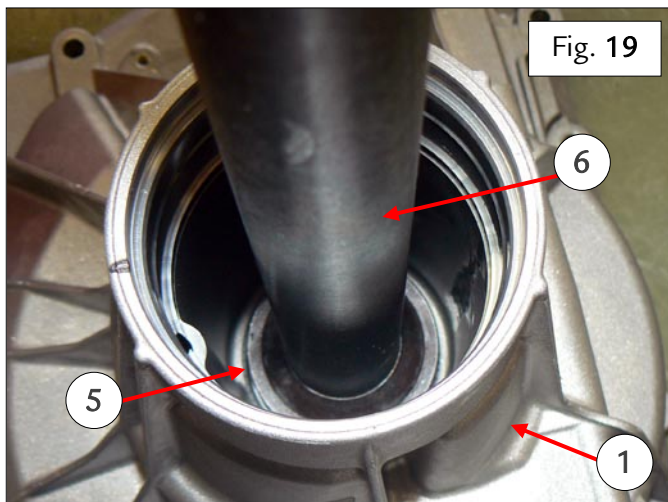

Fig. 19
- Install the new bearing (5) in the relative seat on the outer side of the new connector casing (1), with the markings facing upwards – Fig. 19.
- Install the new bearing (5) fully in its seat with a suitable punch (6) – Fig. 19.